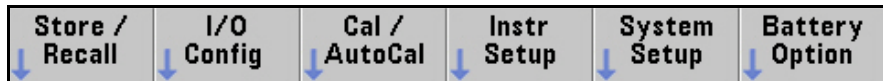

Figure 2-7 Microwave source connection to Channel 3
- 4 Connect the microwave frequency source to Channel 3 on the counter front panel. (Channel 2 for a 53210A.) See Figure 2-7.